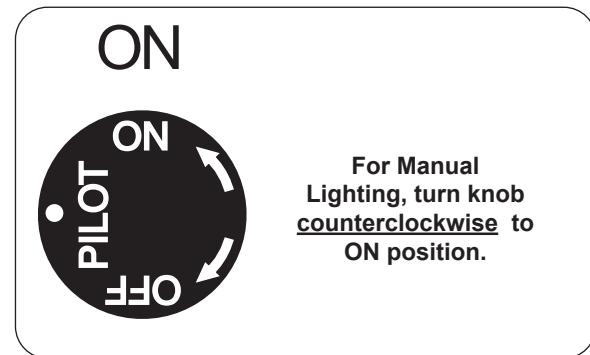

Fig. 29-3 Control knob detail (ON)
- Turn the gas control knob counterclockwise to **ON** (Fig. 29-3) to ignite the burner. The valve will open and the burner will light.